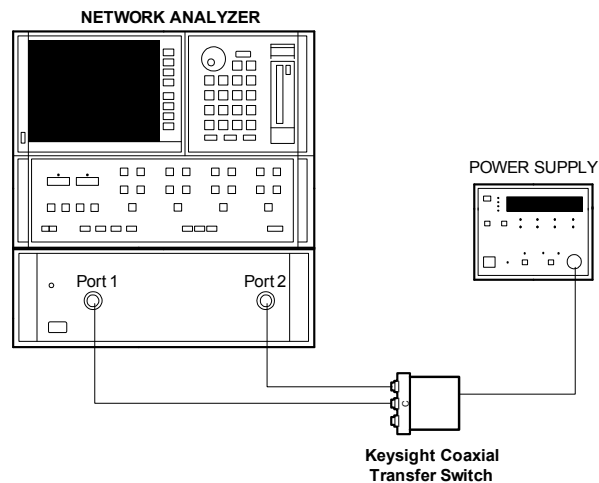

Figure 4-1 Connection to perform quick check
- 1 Drive the switch as in Position A (Port 1 to Port 2 and Port 3 to Port 4). Connect the switch's Port 1 to Port 1 of the network analyzer and Port 2 to Port 2 of the network analyzer as illustrated in Figure 4-1.